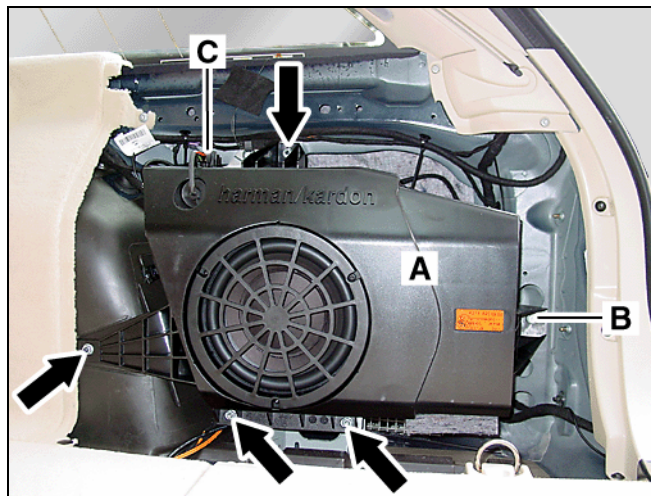

Figure 10
1. Disconnect the speaker of the harman/kardon® sub-woofer assembly (A, Figure 10) on the exposed right side of the load compartment.
2. Remove the harman/kardon® sub-woofer assembly by removing the four nuts (Arrows, Figure 10) and bolt (B, Figure 10) securing it.